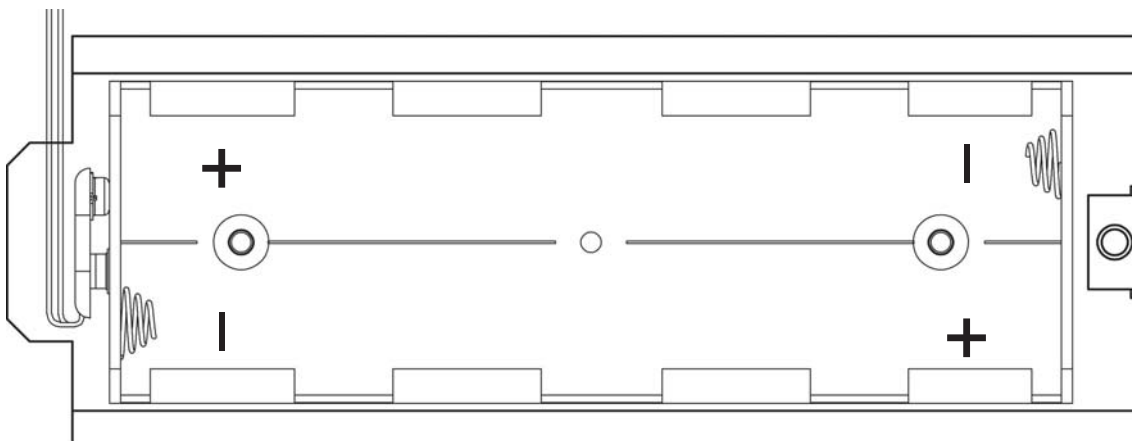

Figure No. 6
6. Install the new 6 "C" size batteries in the holder, noting the polarity markings located in the battery holder. Refer to Figure No. 6.